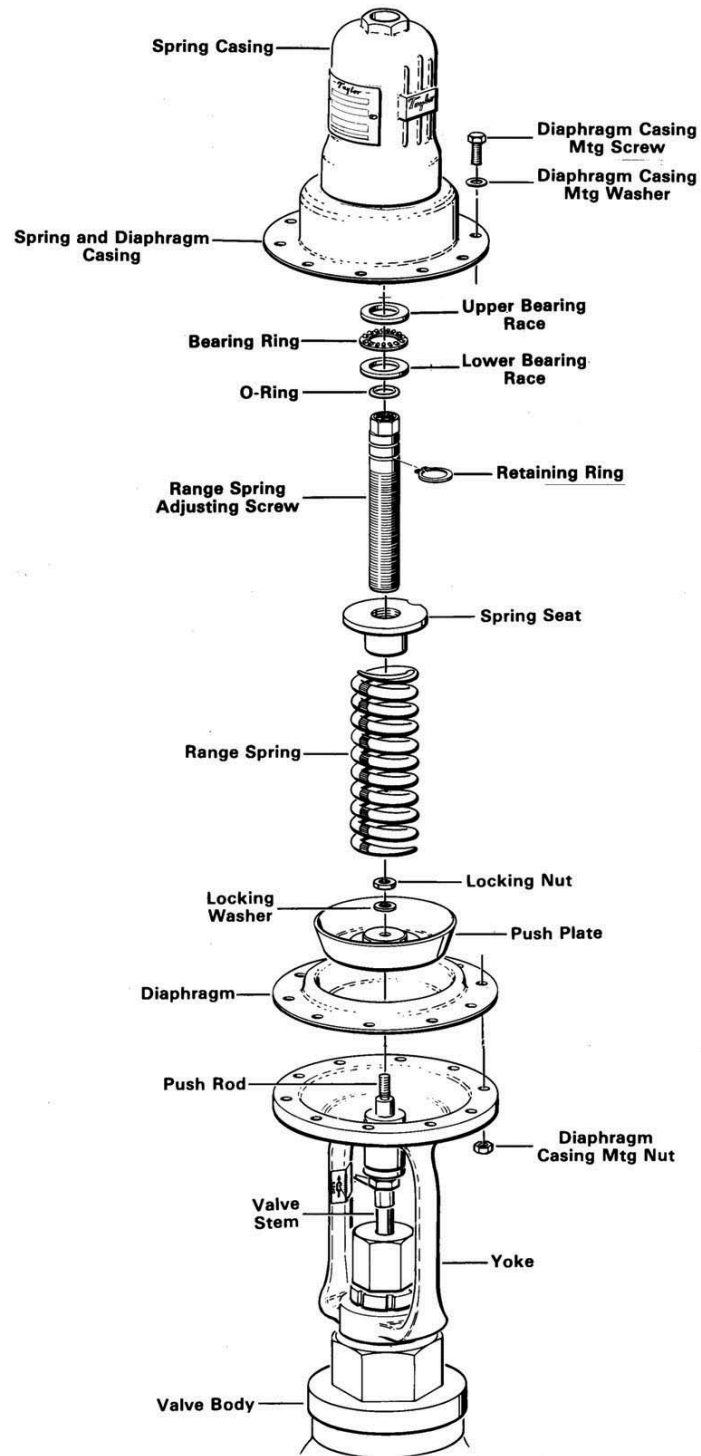

Figure 9. Disassembly of Air-to-Raise Actuator
4. Loosen and remove all diaphragm casing mounting bolts, nuts and washers, Figure 9.
4. Unscrew spring casing with adjusting screw from diaphragm casing, Figure 9.